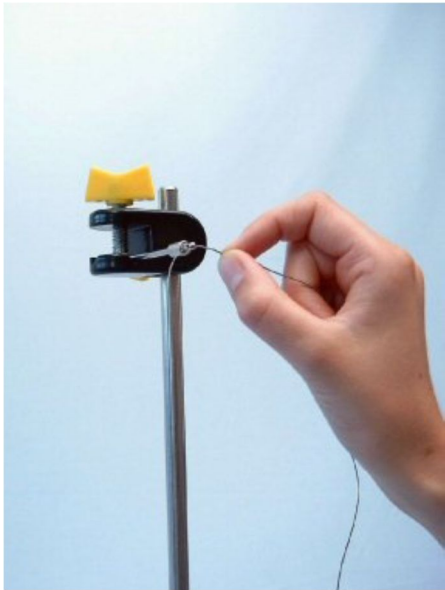

Fig. 7
- Tie a piece of fish line to the hook of the weight holder and thread it through the hole in the holding pin (Fig. 7).